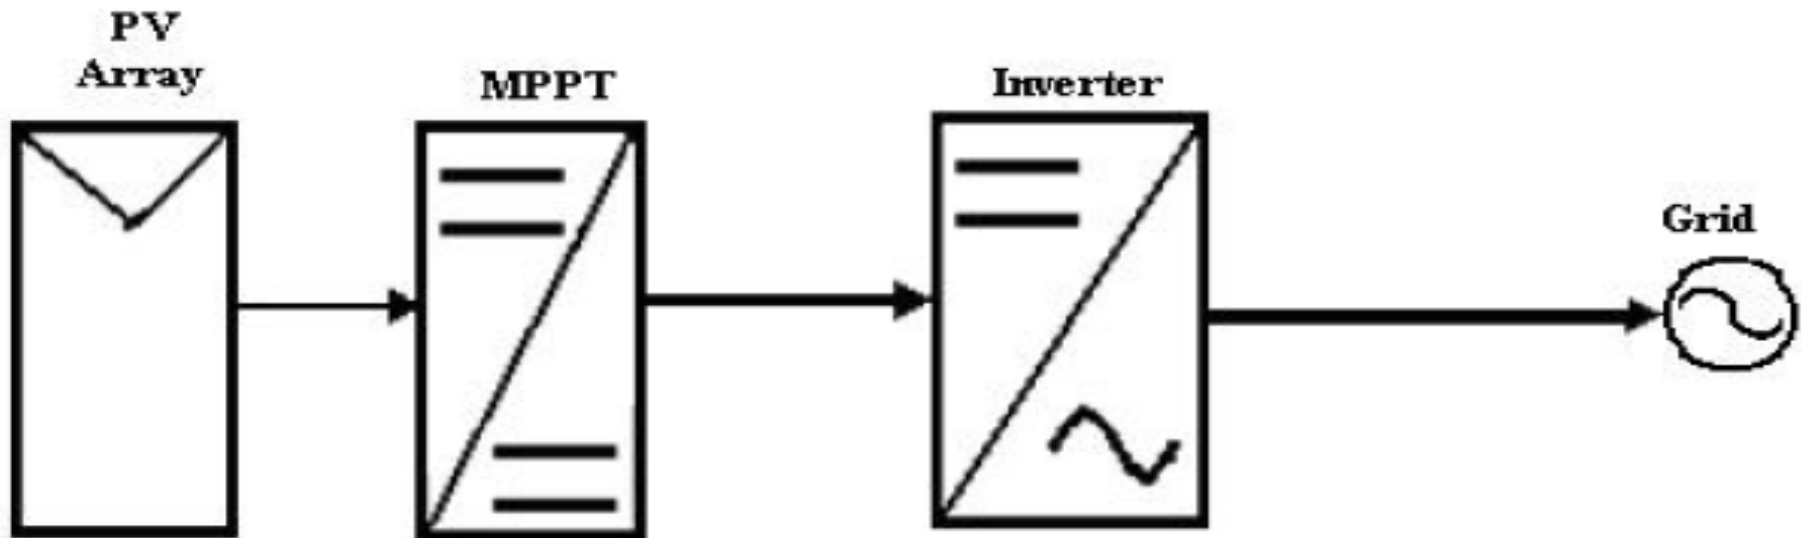

Fig. 1: PV grid connected system
- The classical connection between photovoltaic array and AC grid is shown in Figure 1. The main objective, from this interfacing, is to feed all the collected energy at the PV plant to the commercial AC grid.